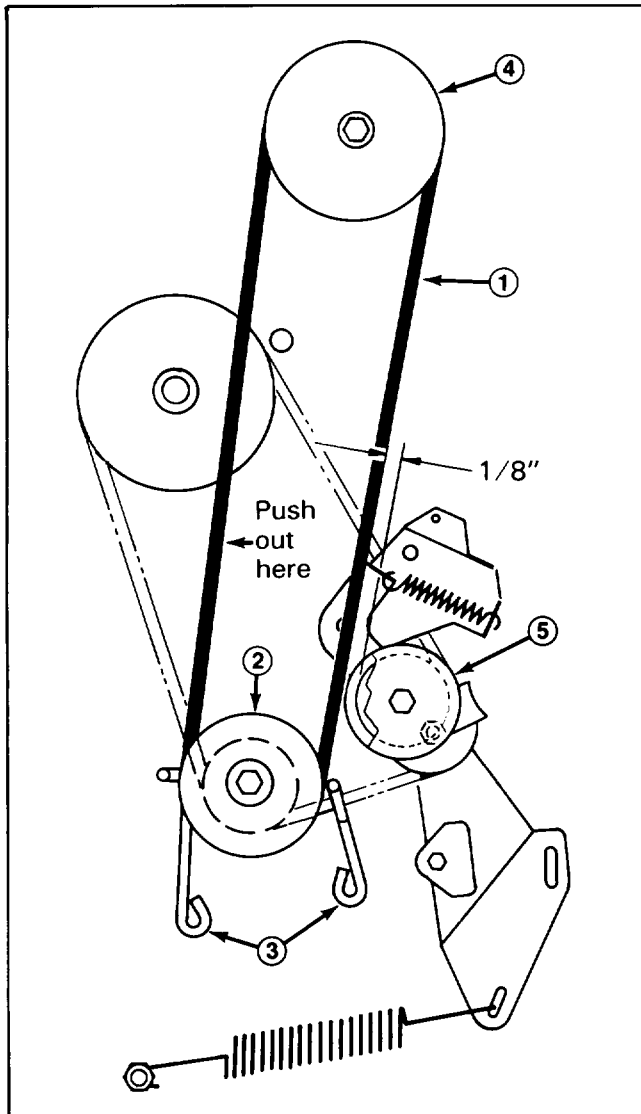

Figure 19
7. Loosen capscrews securing (2) engine pulley belt guides and move guides away from pulley. Remove deck drive belt from engine pulley (Fig. 19).
9. Remove (2) screws securing belt guide to mower housing and remove belt guide. Remove belt from pulley.
12. Pushing out on belt (removing slack), as shown in fig. 19, check clearance between outside of belt and inside of idler pulley (Fig. 19). Clearance should be approximately 1/8".